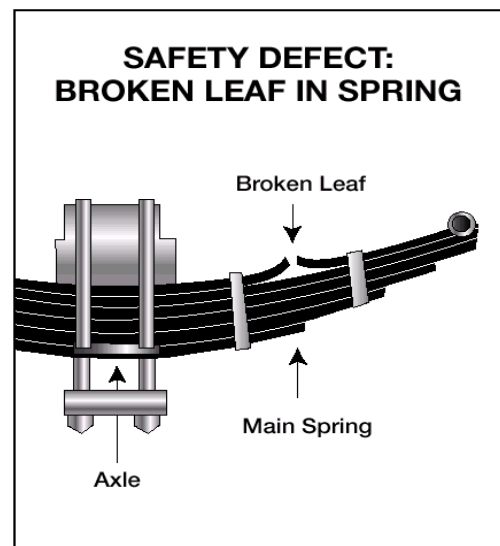

Figure 2.3
- Missing or broken leaves in any leaf spring. If one-fourth or more are missing, it will put the vehicle "out of service", but any defect could be dangerous. See Figure 2.3.